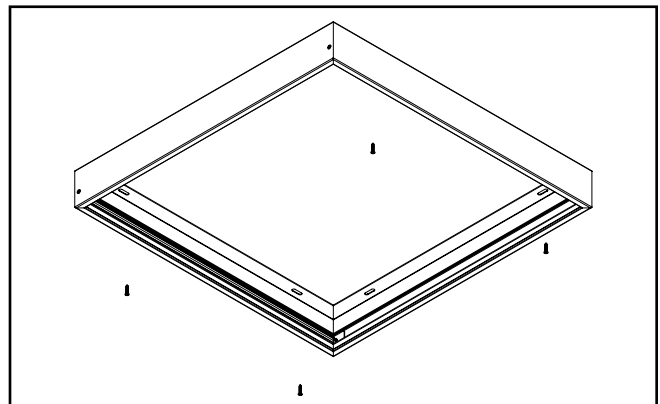

**Figure 5.**
4. Repeat steps to form the other three (3) corners of the surface mount box. (Figure 5.)